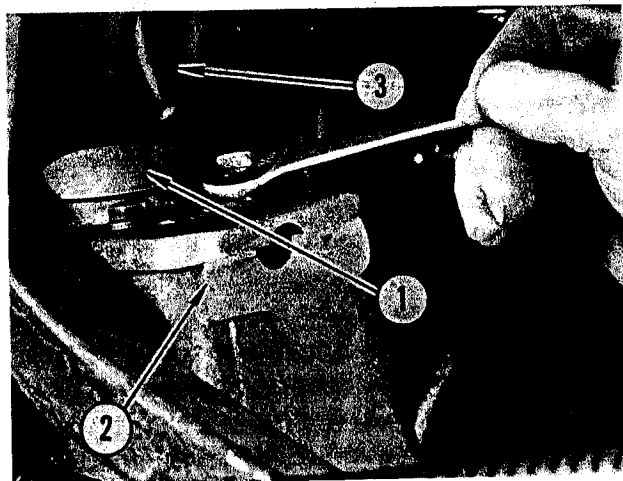

FIGURE 15. SHIFTER ASSEMBLY
Remove four carriage bolts retaining shifter housing cover plate to cab floor. Remove band retaining rubber cover to shifter housing. Remove four capscrews retaining shifter lever ball cap (1) to shifter housing (2) and lift assembly from housing. Figure 15.